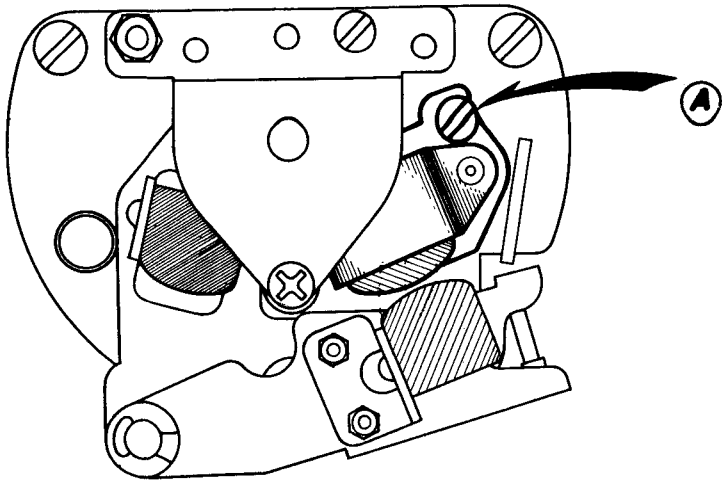
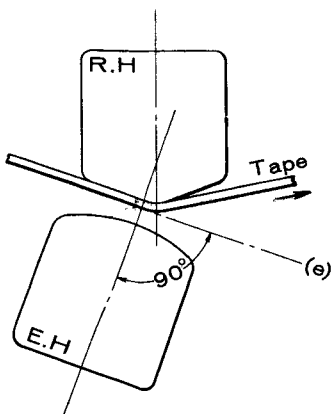

Fig. 2
Fig. 4
- a. Azimuth alignment of the Recording/Playback Head (See Fig. 2)
- b. Angle of the Bias Head (See Fig. 2 and Fig. 4)